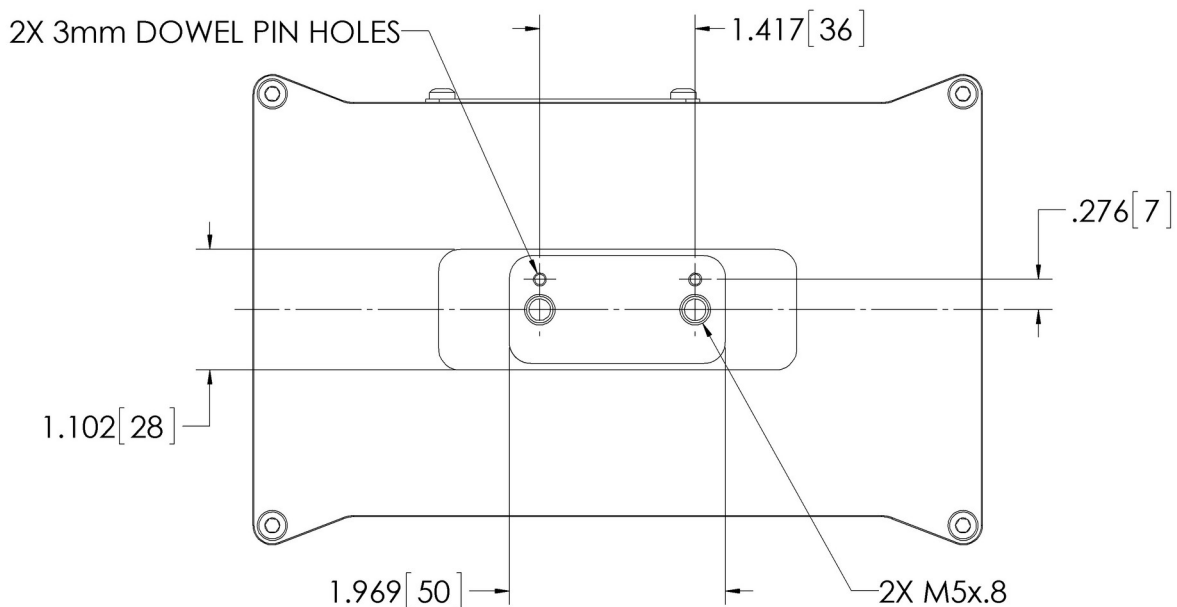

Figure 2. Carriage bolt hole pattern
The Carriage has (2) two M5x0.8 mounting holes with a depth of 0.3 inch (7.5 mm) to provide secure attachment. The fasteners must thread in the proper distance to avoid helicoil pull-out at the recommended tightening torque (See Section 6.0). The mounting holes are spaced as shown Figure 2 above. The Carriage also incorporates (2) two 3 mm diameter dowel pins. These are provided to assure correct process equipment mounting alignment and orientation.